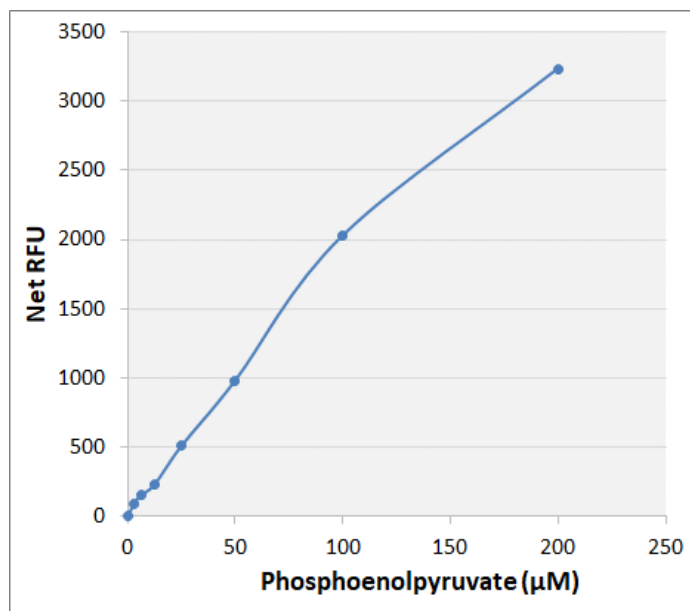

Figure 2: PEP Standard Curve.
3. Graph the standard curve (see Figure 2).